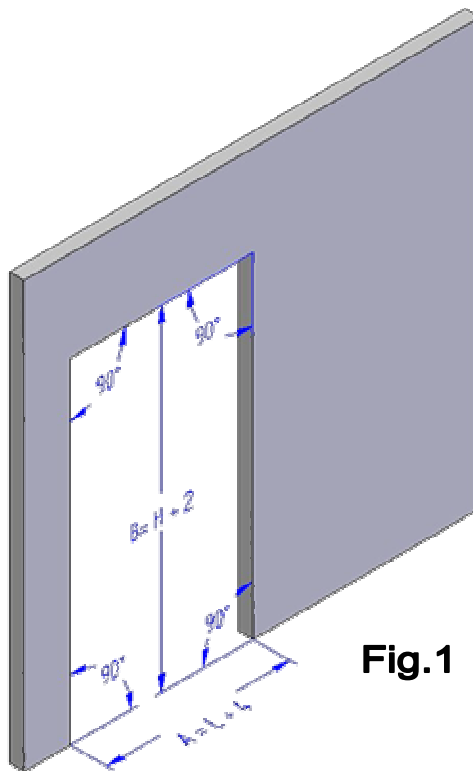

Fig.1
- Cutting the panel (Fig. 1):
Cut the panel for application as shown in Fig. 1.